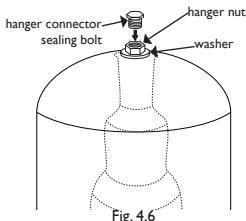

Fig. 4.6
13. If applicable; insert the sealing bolt into the open connector; ensure it is properly seated and tighten it. Do NOT over-tighten (fig. 4.6).